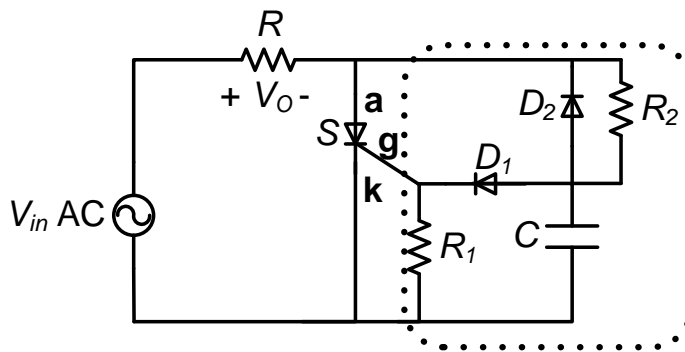

Fig. 1. Half-wave rectifier with SCR and resistive load
- 2.1 The main rectifier component is the SCR (S) which is a TYN058. The load resistor (R) is 51Ω . The SCR control circuit is enclosed in the dotted box of Fig. 1.
- 2.3 On the proto board, build the circuit shown in Fig. 1. Use a short circuit instead of R2.